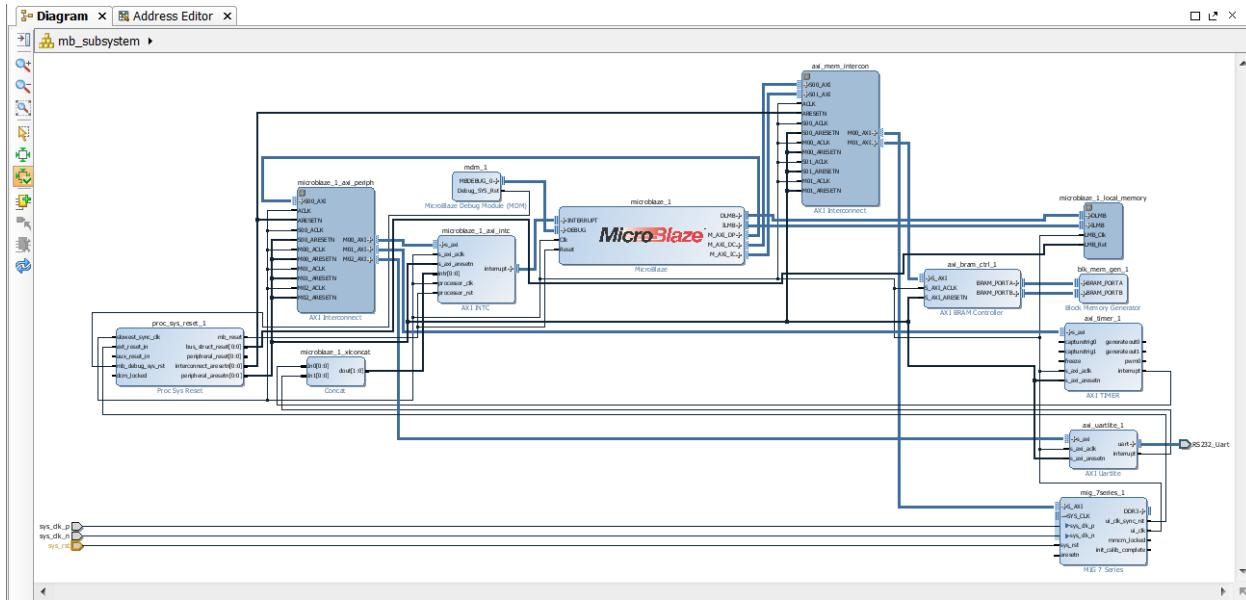

Figure 123: Regenerate IP Integrator View
10. In the IP integrator tool, click the **Regenerate**  button. The IP integrator canvas looks like Figure 123.